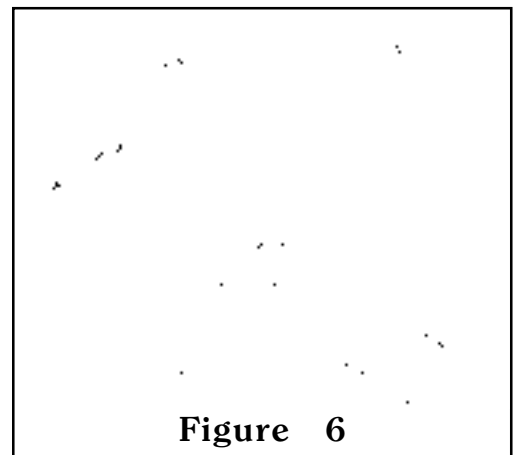

Figure 6
- b) Install the saddle tapping valve on the COLD water copper tubing so the outlet is in a convenient direction. See figure 6.